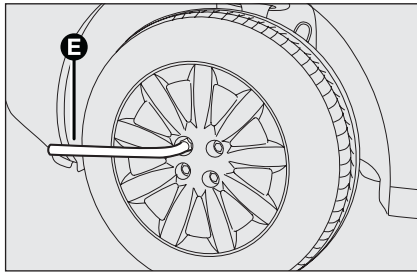

fig. 12
- ❑ loosen the bolts of the wheel to be replaced by about one turn with the wrench provided **E**-**fig. 12**; if the car is fitted with alloy rims, shake the car to facilitate removing the rim from the wheel hub;